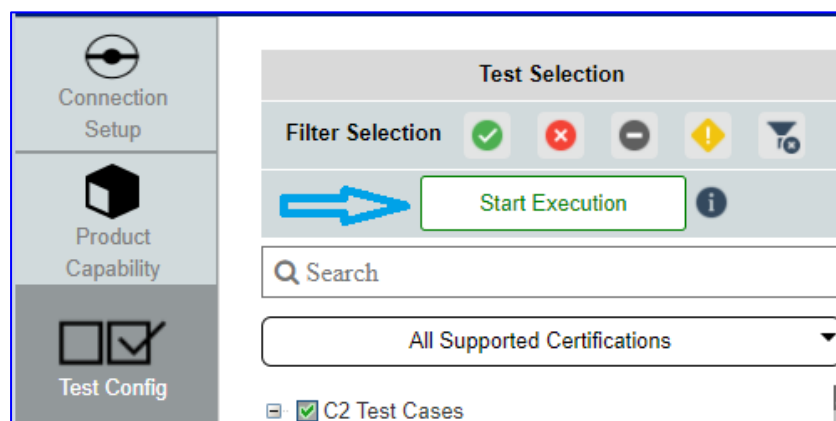

FIGURE 5.2: SELECTING START EXECUTION BUTTON FOR FUNCTIONAL COMPLIANCE TEST CASES WITHOUT USB DATA SUPPORT
- After selecting the test cases, select the **Start Execution** button (Figure 5.2 below) to begin execution for the selected test cases.